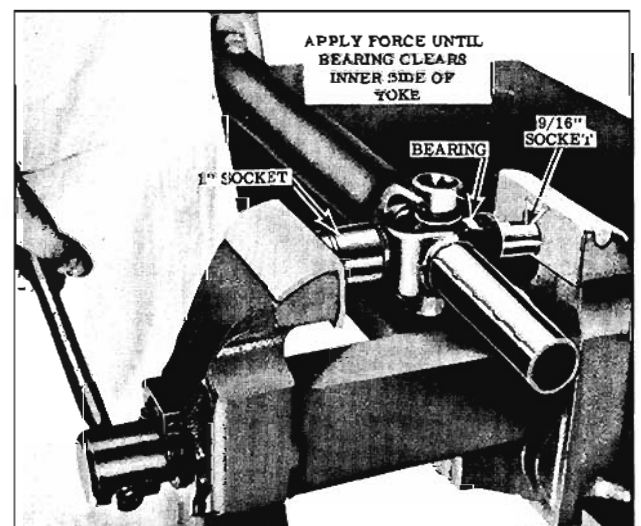

Fig. 10-6 Pressing Bearing From Yoke (Spicer)
2. Press the bearings from the yoke as shown in Fig. 10-6. Continue pressing until bearing